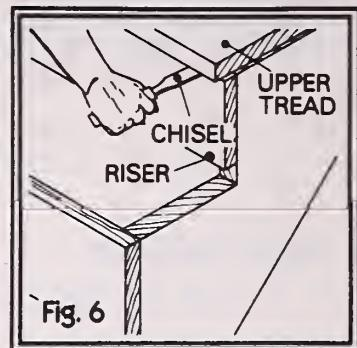
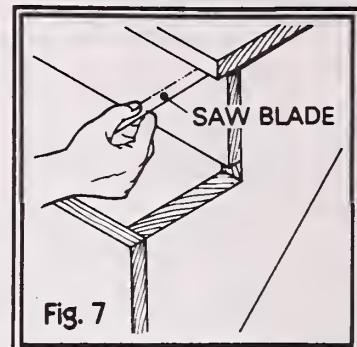
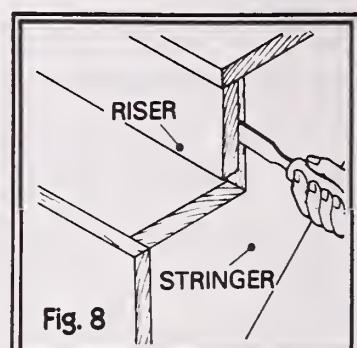

Fig. 6
Fig. 7
Fig. 8
8. Remove the riser if it also has to be replaced. Begin by partially prying the riser loose from the upper tread (fig. 6). Once the nails are exposed, saw them off flush with a hacksaw blade (fig. 7). Continue by prying the riser away from stringers (fig. 8). Sink or pull any nails that protrude.